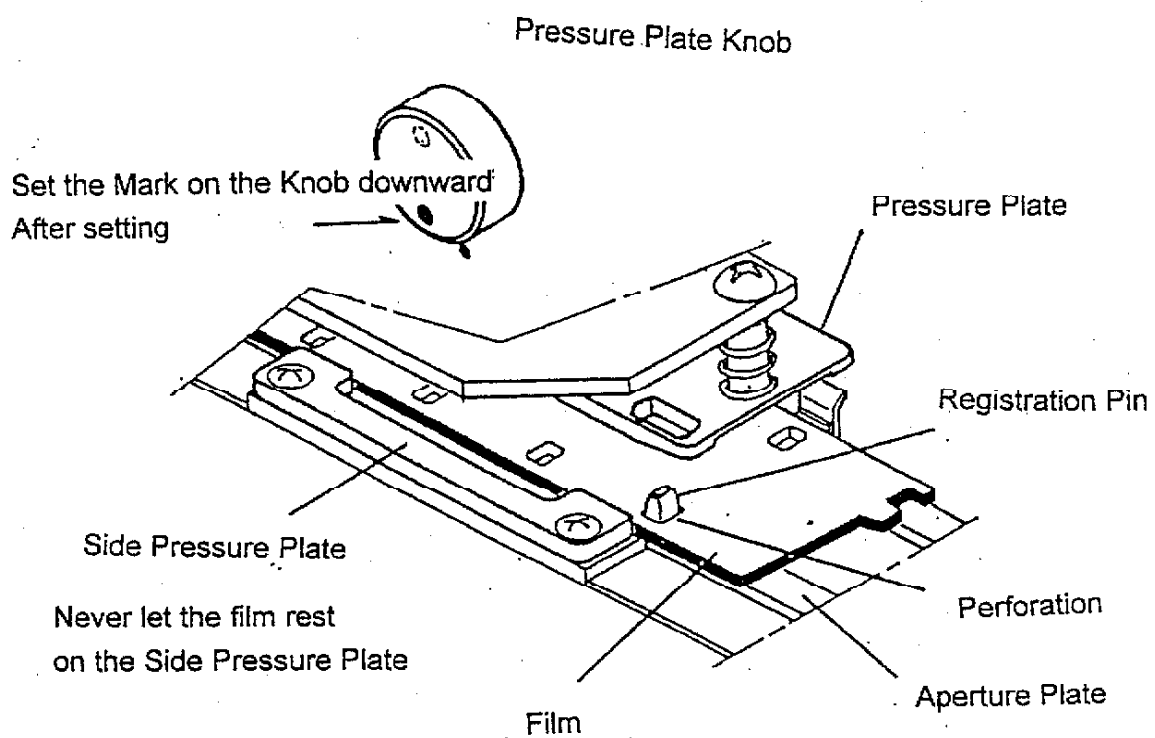

Fig. 2-3 Film on Aperture Plate
8. Engage the perforation of the film with the Registration Pin and push the film against the Aperture Plate with your fingers. At this time, place the center of the loose film portion onto the Aperture Plate. The Registration Pin is located near the right end of the Side Pressure Plate and projects from the Aperture Plate. Never let the film rest on the Side Pressure Plate. (Fig. 2-3)